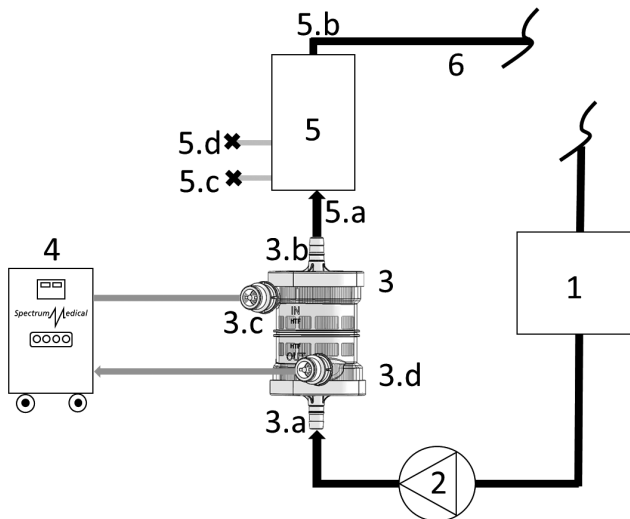

Fig. 2
- Check that the O-Ring is present on the HTF connectors (ref. 3c and 3d in Fig.2).
4. Remove the protective caps from the connectors on the HTF side of the device (ref. 3c and 3d in Fig.2).
5. Connect the tubes of the Spectrum Medical Quantum Heater-Cooler System (ref. 4 in Fig. 2) to the device (ref. 3c and 3d in Fig. 2) using the female quick-coupling connectors.
1. Connect the device to the extracorporeal circuit as shown in Figure 2.
2. Place the device between the arterial pump (ref. 2 in Fig. 2) and the oxygenator inlet (ref. 5 in Fig. 2) as shown in Fig. 2.
3. Remove the protective cap from the blood inlet connector (ref. 3a in Fig. 2).
5. Remove the protective cap from the blood outlet connector (ref. 3b in Fig. 2).